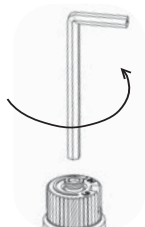

Fig. 2
14) Insert a 5/32" or 4mm Allen wrench into the hexagonal key-way of the screw (Fig. 2), rotate it counter-clockwise until it is free and extract it.